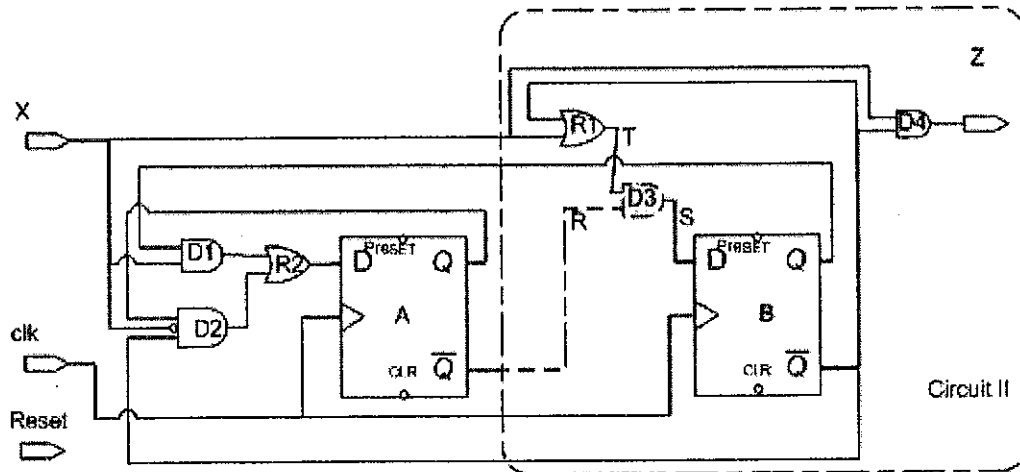
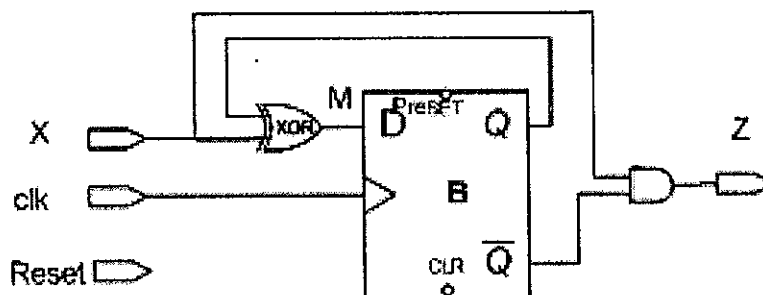

Figure 5.1:A Sequential Circuit Diagram
Figure 5.2: New Circuit II Diagram
- (i) Considering there is a 13ns delay on each gate, compute the propagation delay of the circuit Fig5.1. [4 marks]
- (ii) Show how to implement the asynchronous **reset** function operation on fig(5) circuit. The Reset signal needs to be set high to reset the circuit to its initial state. [3 marks]
- (iii) Considering the modified Fig. 5.1:**circuit II** diagram depicted in Fig. 5.2 and add Reset function define on Q5(ii). Draw the timing diagram for the following description. Show the X, CLK, Reset, Qb, Z, and other necessary signals.